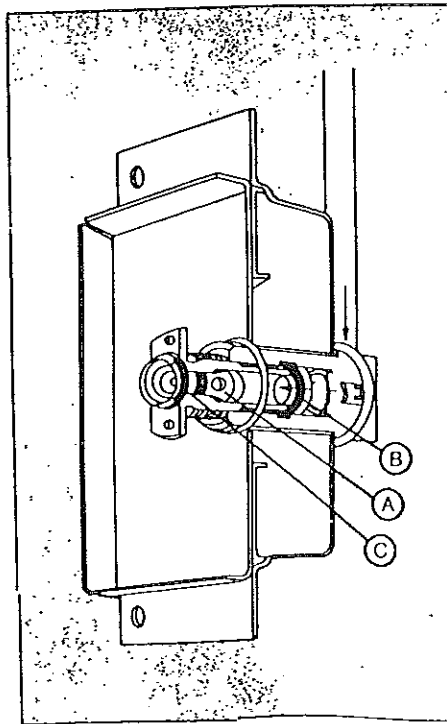

FIGURE 2
When not in use, gas is in a non-flowing state within the outlet station, sealed by O-rings in the poppet (A) and valve body (C). O-ring (B) seals the valve body within the outlet base housing - Figure 2.